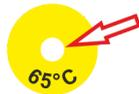

Fig. 21: Temperature indicator light: Temperature is okay.
1. ➤ Check that the temperature indicator is in a proper state (Fig. 21).